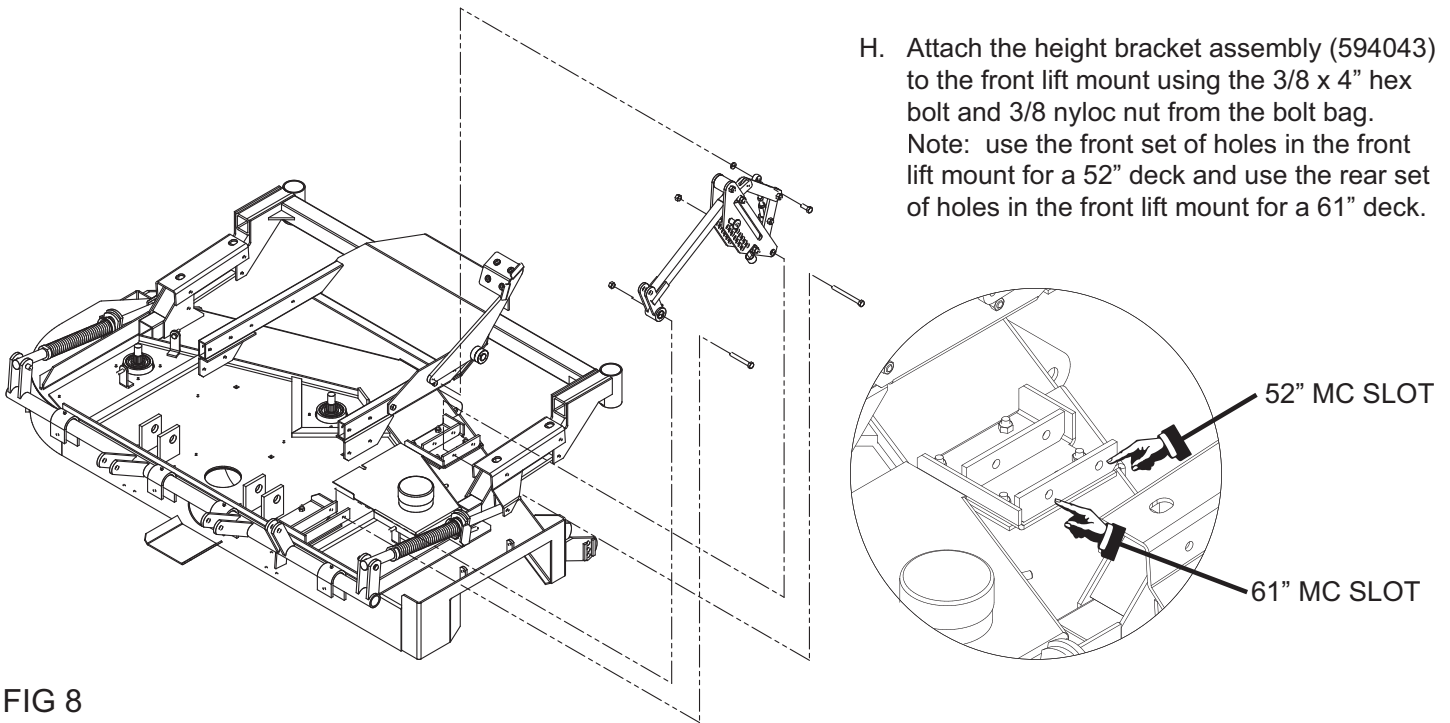

FIG 8
- G. Attach the height bracket assembly (594043) to the rear lift mount using the lift arm pivot bushing, 3/8 x 2-3/4" hex bolt, and 3/8 nyloc nut found in the bolt bag (refer to Fig. 8).
- I. Attach the height bracket assembly (594043) to the foot pedal using the 3/8 x 1" hex bolt and 3/8 lock washer. The 3/8 lock washer is to be assembled between the link assembly and the foot pedal as shown in Fig. 8.